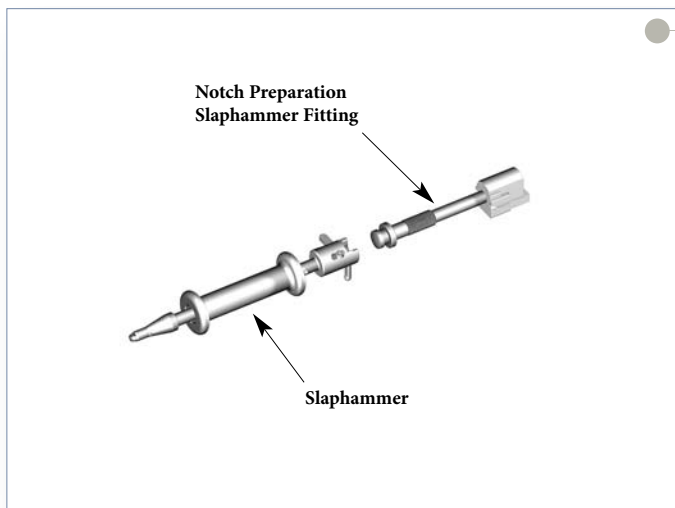

Figure 23
- ▶ Remove the Punch from the tracks with a Slaphammer if necessary (Figure 23).